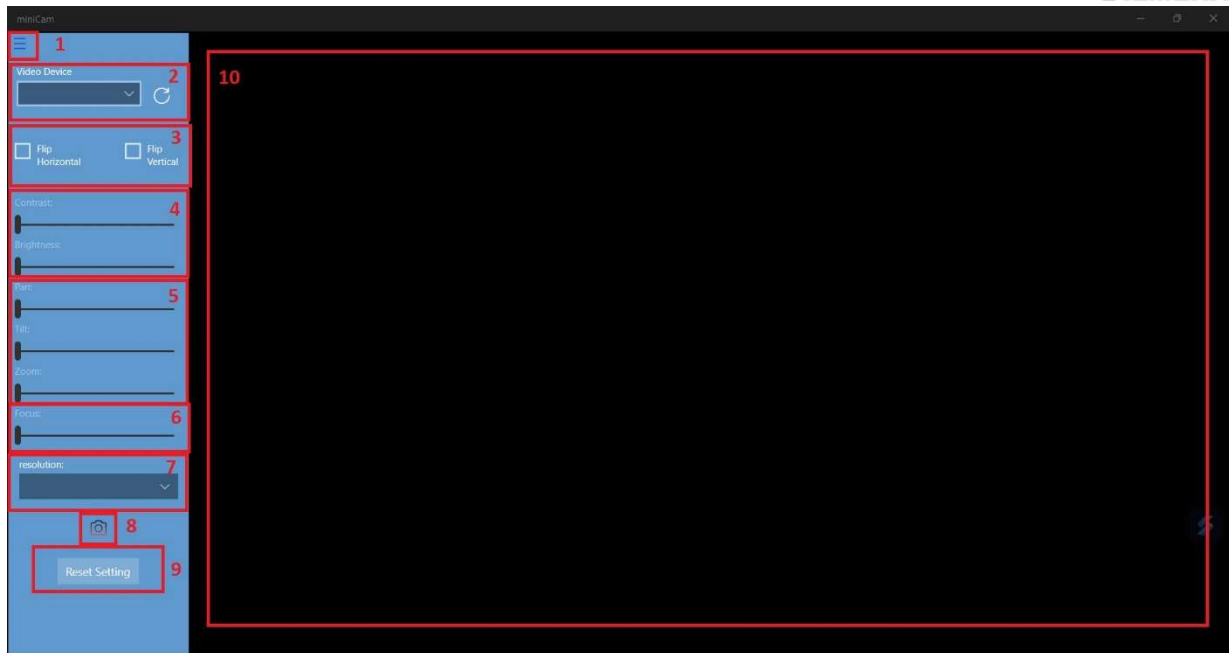

Figure 6: *miniCam* software interface of the AVT 4K-MiniCam
The *miniCam* software has a very easy to understand user interface. The main area is shown in figure 6 below.
4. As shown in Figure 6, both contrast and brightness can be changed. The values range from 0 to 255.